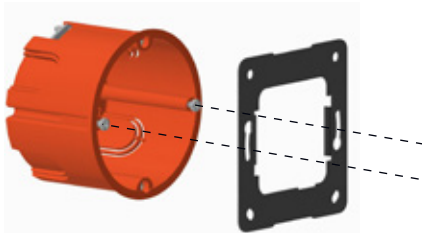
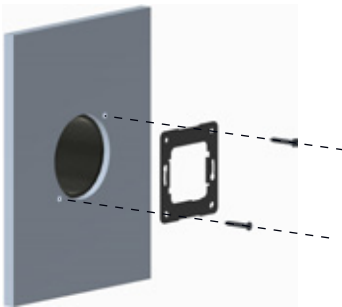

Figure 1: Hallow Wall Box Installation
Figure 2 : Wall Installation
- Assembly mounting frame (13) as shown in Figure 1 / Figure 2.
- Connect KNX bus cable to device (9).
- Optional: Connect external input cables to device (12).